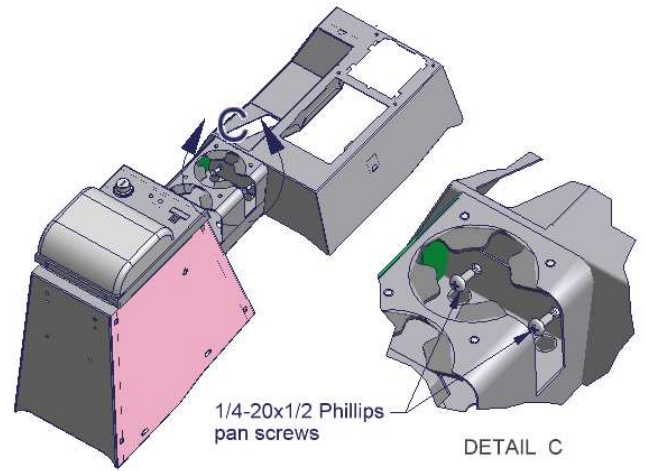

Figure 5
36. Attach the shift boot plate to the console using (2) 6-32 x 5/8 screws (SEE FIGURE 5). Position the shift boot plate flush against shift boot so it holds the shift boot tightly.